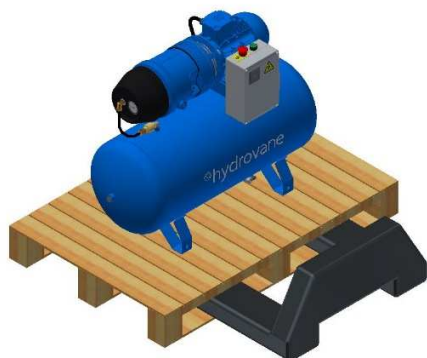

**Fig 4.1 - 501-502-504 PURS (PARS)
4.2 Lifting and Handling (Fig 4.1, 4.2, 4.3, 4.4, 4.5 & 4.6)